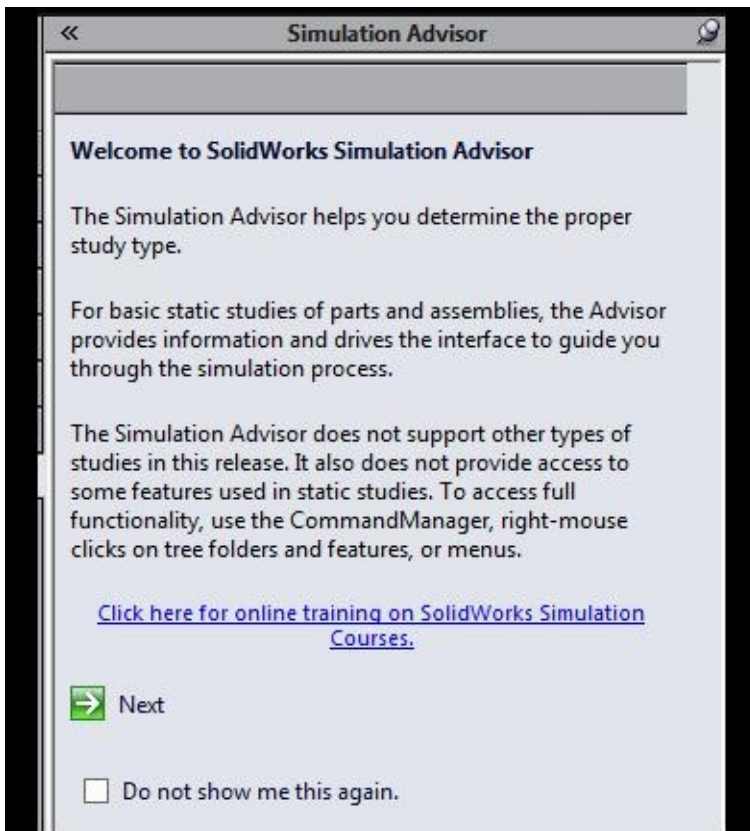

Figure-30. Simulation Advisor
- Click on the Down arrow below the **Study Advisor** button and select the **Study Advisor** tool from the drop-down. The **Simulation Advisor** will be displayed in the right of the application window; refer to Figure-30.